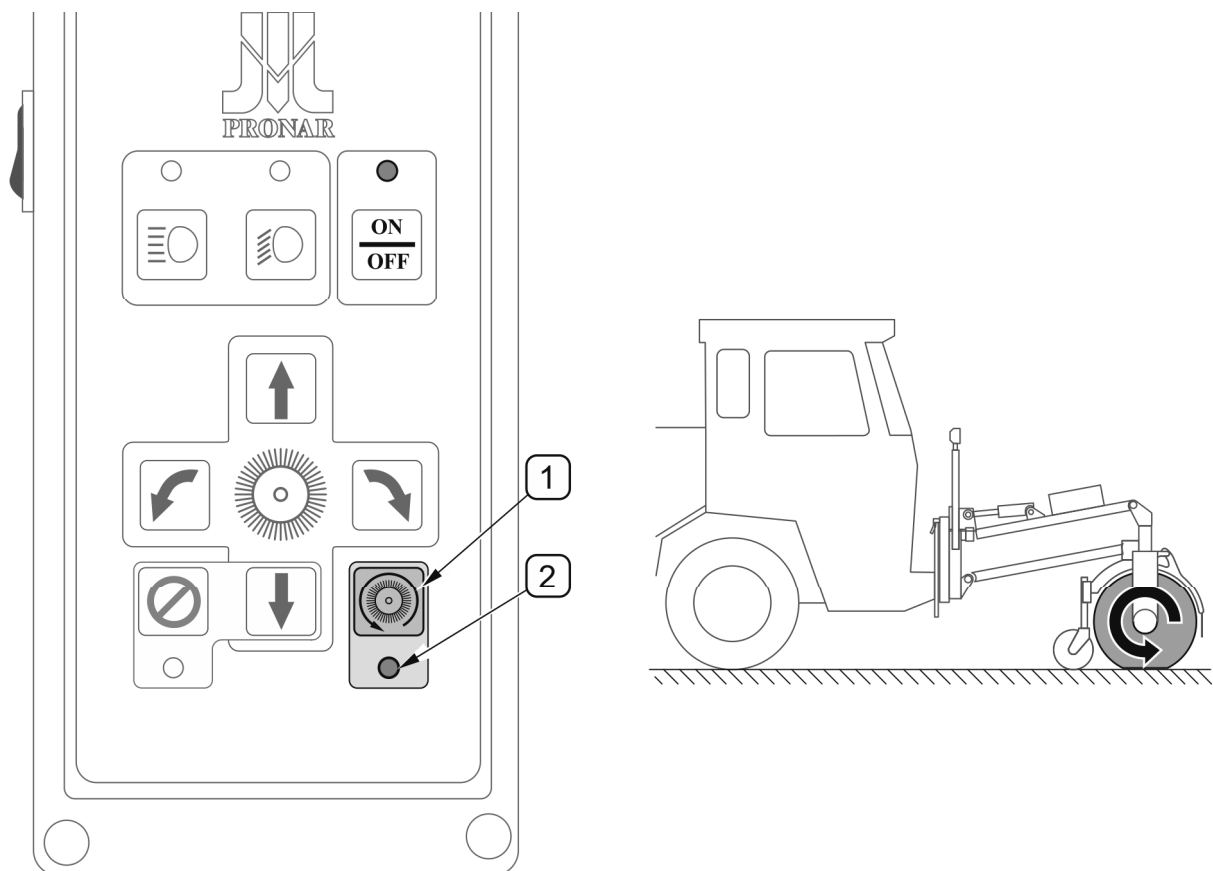

FIG. 4.12 Brush drive switch (ZM-S25)
(1) - brush drive switch; (2) - brush drive ON indicator light;
To turn on the brush drive, the control panel must be active, i.e. the ON / OFF (yellow) light should be on - not flashing. Brush drive is switched on and off using switch (1) on control panel (FIG. 4.12). After switching on the drive with the button (1), the raised brush will lower from the transport position to the working position. The suspension system will go into floating mode allowing copying of the terrain. The ON / OFF (yellow) indicator light should be on - do not flash.
When the brush drive is switched on indicator light (2) lights up. Brush rotation direction should be the opposite to direction of vehicle travel (FIG. 4.12.)